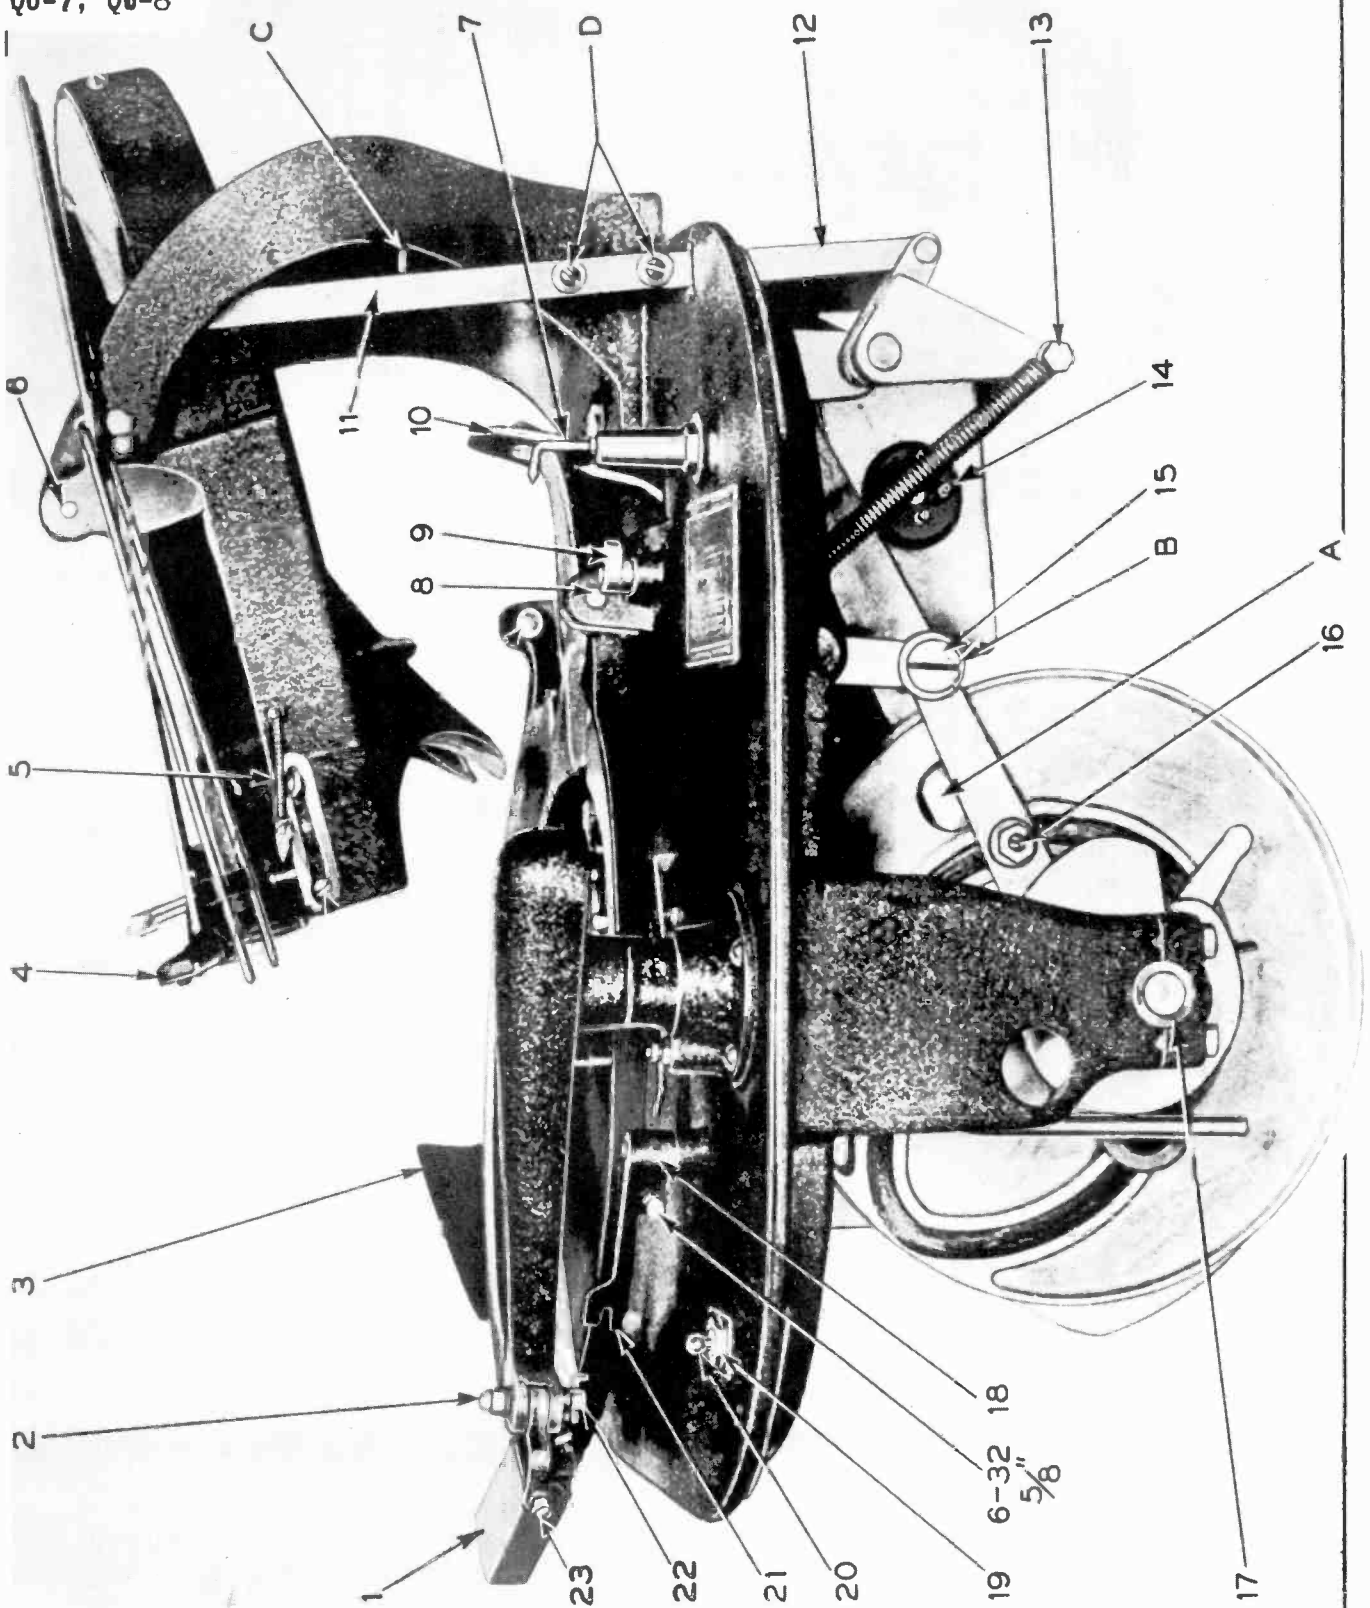
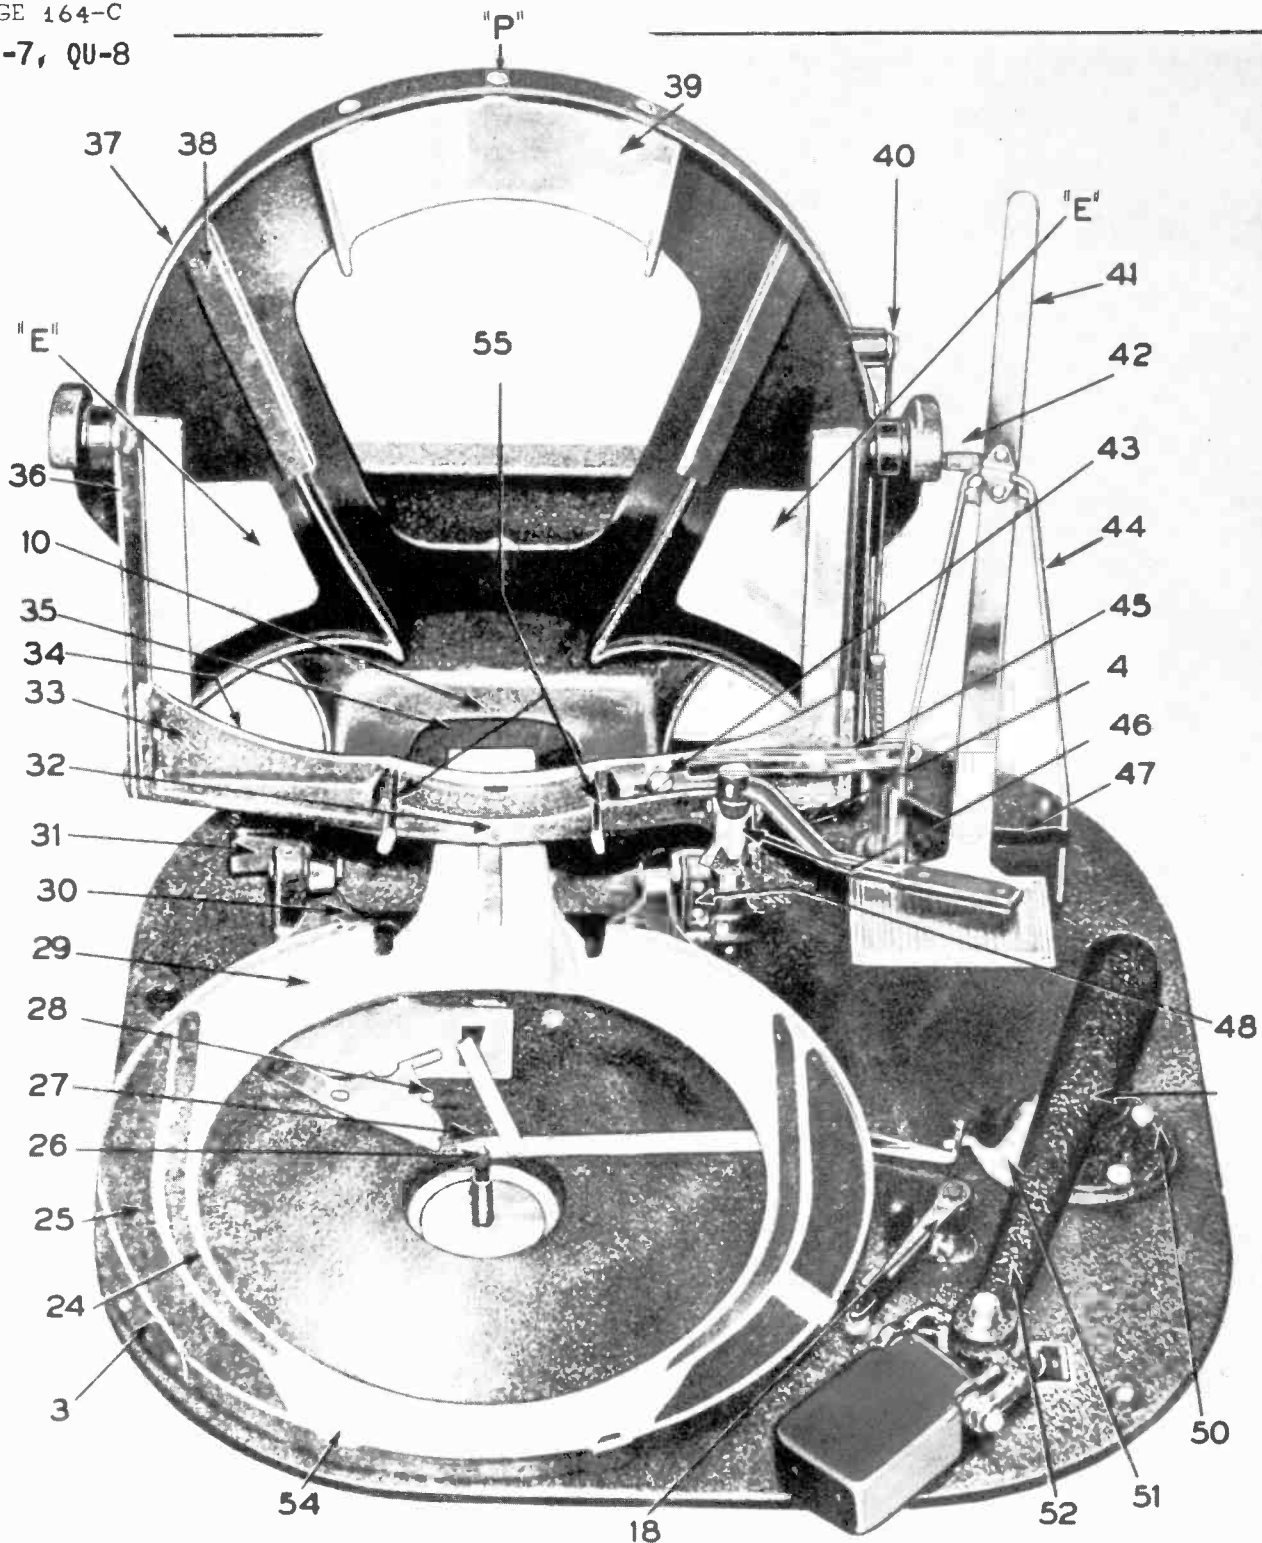
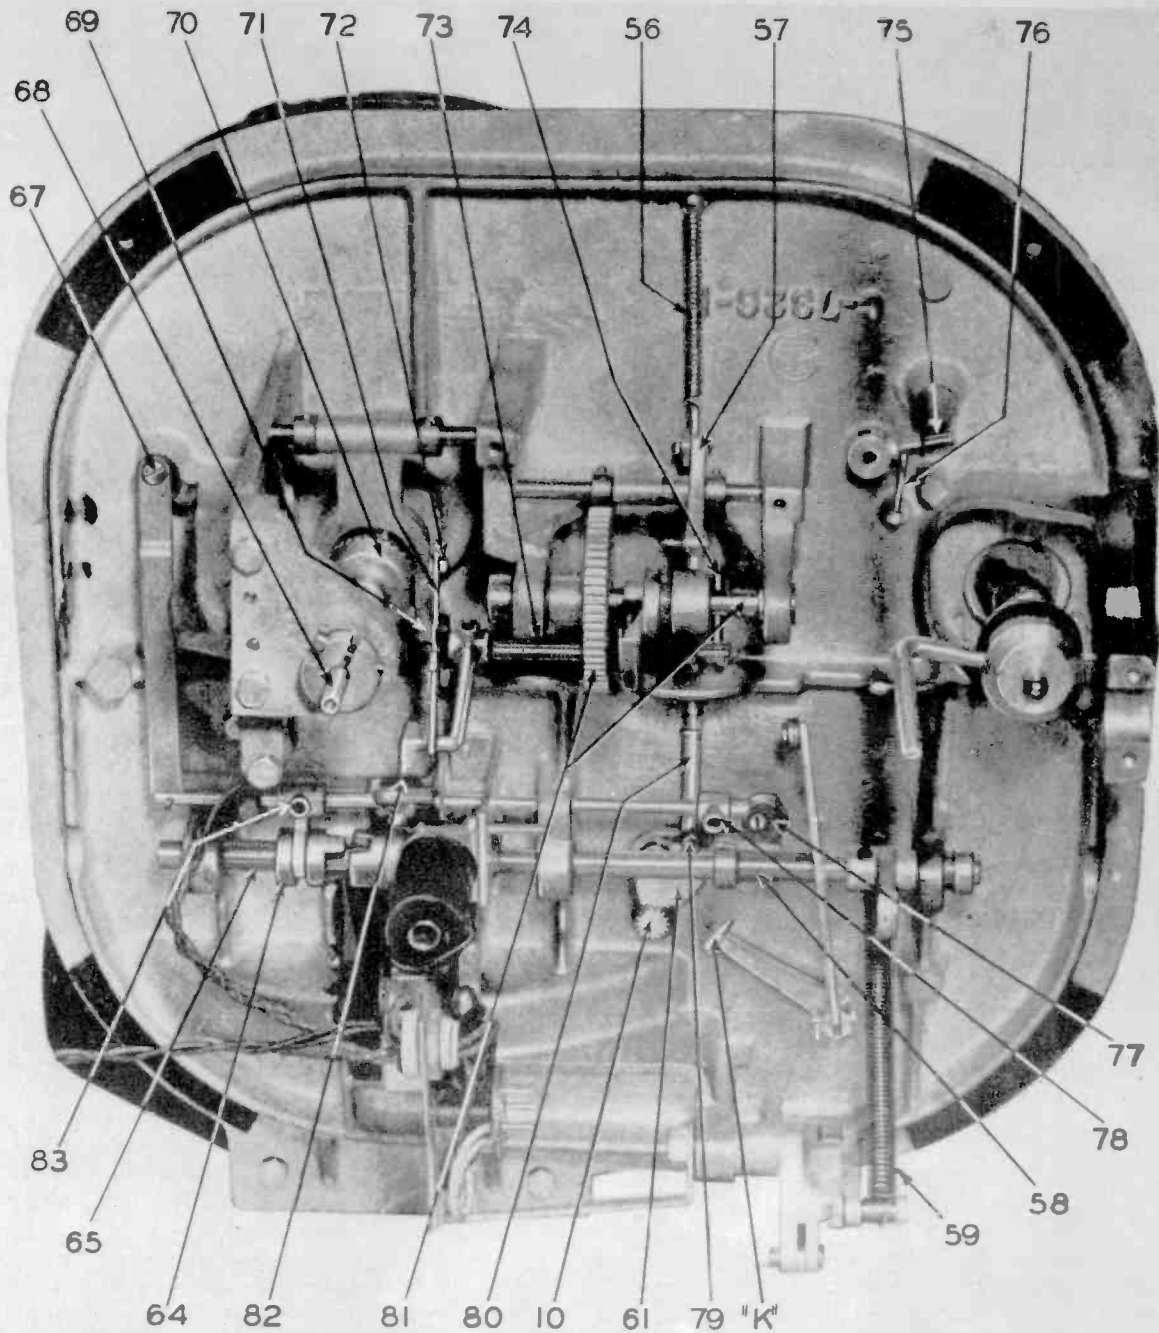
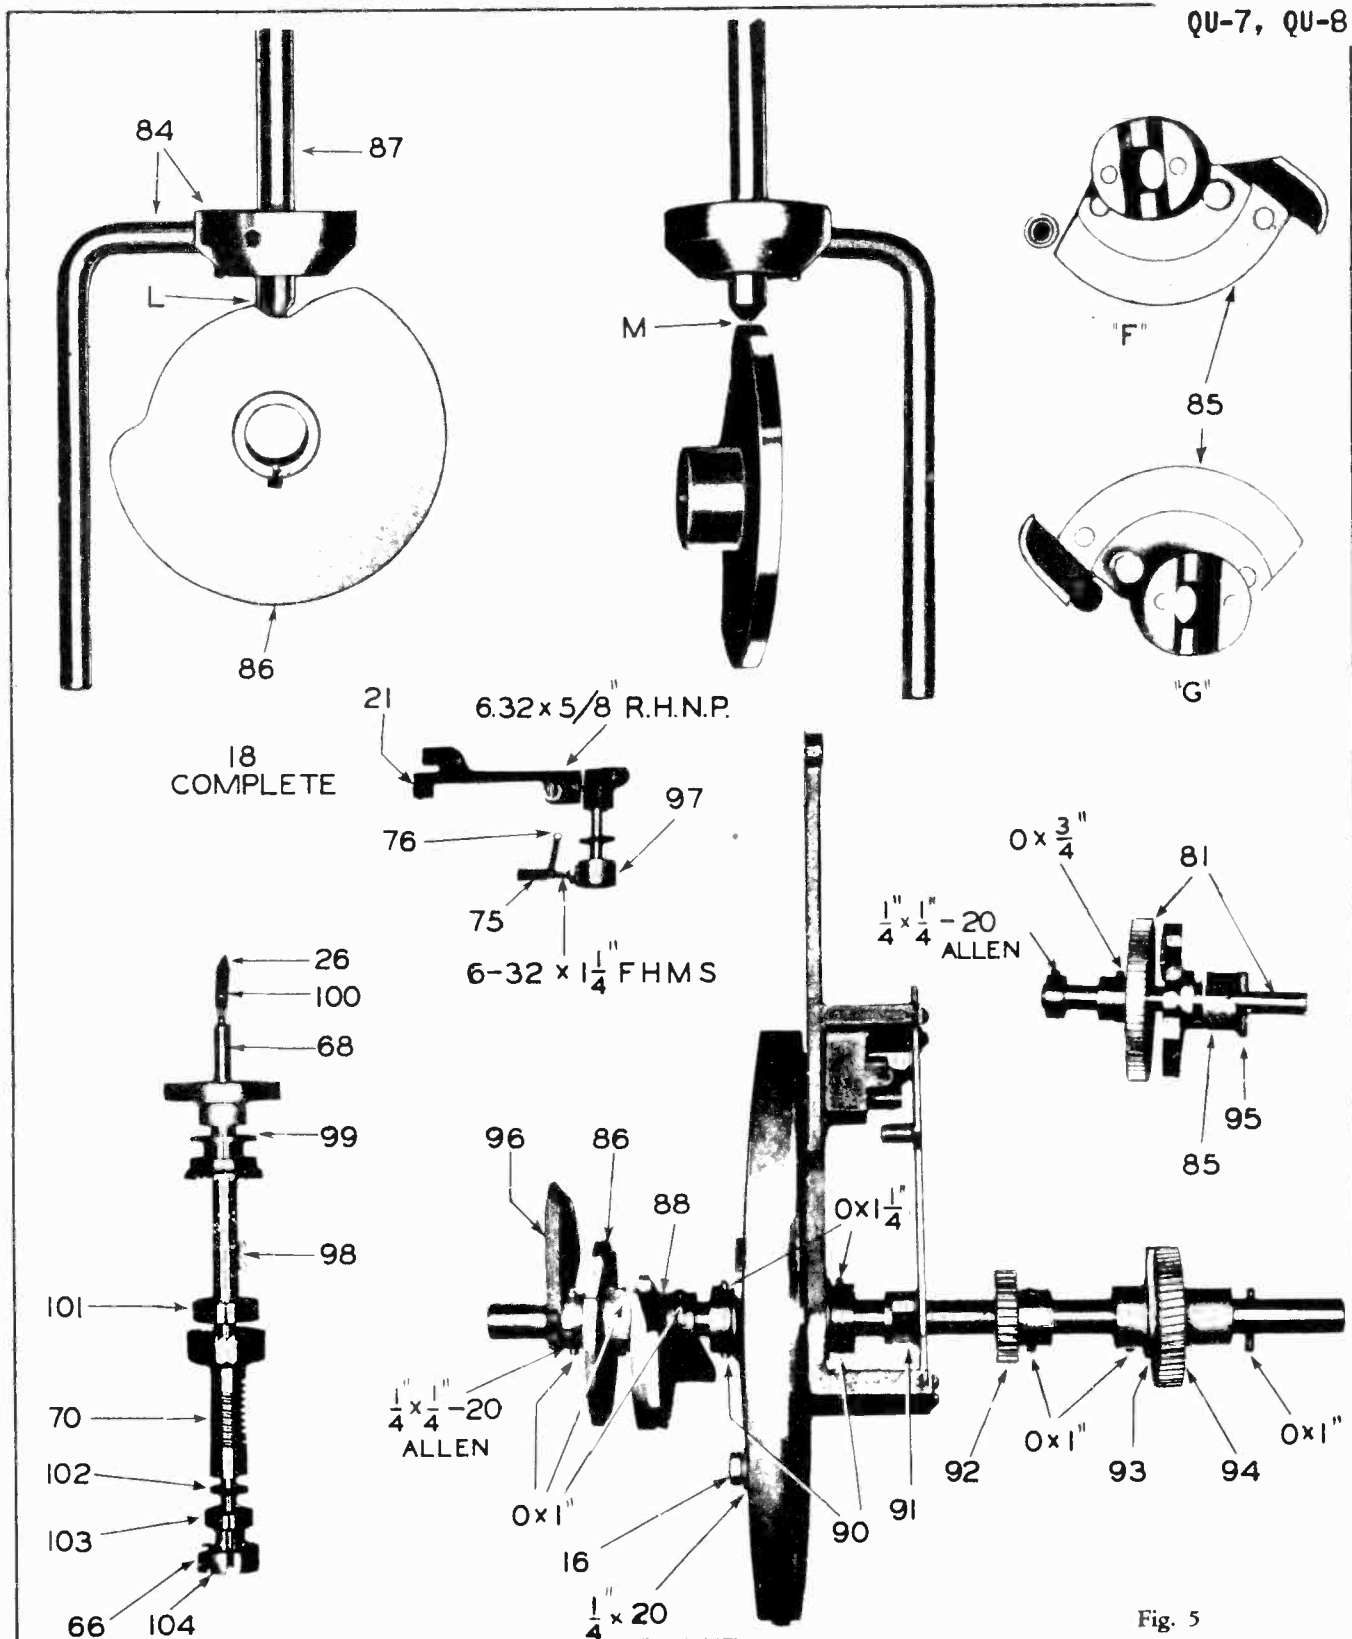

Fig. 1
Fig. 2
Fig. 4
Fig. 5
A very light coat of vaseline should be applied to the surfaces of the magazine, indicated at "E" in Fig. 2. It is best to apply this coating every six months. The vaseline should be applied with, and removed by, the fingers, on the magazine faces. **DO NOT USE EXCESSIVE AMOUNTS OF LUBRICANT ANYWHERE ON THE RECORD CHANGER.**
NEVER OIL THE "DUREX" BUSHINGS (one of which is shown as No. 17 in Fig. 1), AS THIS WILL CAUSE THEM TO DISINTEGRATE.
Note:—When mechanism jams upon first being played after being unpacked, check to see whether the record magazine is lined up as stated in Adjustment 7. Also check to see if the Record Reverse Arm Lock No. 46 Fig. 2 is on top of the Record Reverse Arm Lock Stop No. 48 Fig. 2.
1. MAGAZINE LINK ADJUSTING SCREWS ("D") (Fig. 1).
The record magazine should always come back snugly against the magazine stop screw, "C," Fig. 1. If it does not, it is necessary to loosen the two set screws ("D," Fig. 1) to a sliding tension and run the record changer through a cycle of change. When the magazine has reached the horizontal position, as shown in Fig. 1, press down on the lower end of the magazine; this will lengthen the link assembly. Then when the magazine returns to its normal position, the magazine link will adjust itself so that the magazine is snugly against the stop screw. Then tighten the magazine link screws "D."
The separator stop "J," Fig. 1, should be adjusted so that a small 10" record will positively clear the knife portion of the separator lever as shown in the following illustration. A
standard to use is to make certain that there is approximately $\frac{1}{32}$ " clearance between the edge of the small record and the point of the separator lever, as shown at "A" in illustration below. However, it may be necessary to vary one way or the other from this measurement, depending on whether or not the slotted end of the record separator lever goes over the hook (7) (Fig. 1) without binding.
After adjusting the record separator it will be necessary to check the record separator hook (7) (Fig. 1) to see that it enters the slot in the record separator without binding. This hook is threaded and by loosening the locknut the hook can be turned in either direction, to raise or lower it. After the correct adjustment is obtained, tighten the locknut.
4. RECORD MAGAZINE BUSHING (13) (Fig. 1).
If a ringing noise is heard while the instrument is changing records, i. e., such a noise that might be made by a spring, it will be found that the Durex bushing (13) (Fig. 1) is too tight, in which case it will be necessary to loosen the lock nut of the holding bolt, and back the bolt out, from a quarter to a half turn, then tighten the lock nut.
To adjust the tone arm height, first place a 12" record on the turntable and adjust the tone arm stop lever (18) (Fig. 1) so that the record hits the rubber roller (21) (Fig. 1) in the center. Start the record changer through a cycle and stop it when the tone arm lever hook (22) (Fig. 1) just touches the stop lever assembly. In this position adjust the tone arm height so that the top of the stop lever is the same height as the center of the hook. This adjustment is made by loosening the two Allen set screws at the rear of the tone arm. These Allen set screws are accessible by raising the tone arm by hand. After making the height adjustment it is necessary to make certain that there is a clearance of approximately $\frac{5}{8}$ " between the pickup head and the record tray. This distance may be checked between the bottom of the record tray and the bottom of the pickup when the record tray is approximately parallel with the pickup.
6. TO ADJUST THE STOP LEVER HOOK (22) (Fig. 1).
Always adjust the tone arm position on a 12" record before adjusting for a 10" record. Adjust the tone arm stop lever hook (22) (Fig. 1) by moving it in or out. This hook is locked in place by a set screw in the stud whose nut is shown in Fig. 1 as No. 2. This set screw is at the bottom of this stud. Adjust the hook so that it will pass through the notch in the pickup arm lever (18) (Fig. 1) without binding against the top or bottom of the notch, when in the playing position. With a 12" record on the turntable, the rubber roller (21) (Fig. 1) against the edge of the record and the stop lever hook (22) against the blade of the stop lever (18) the needle should stop on the record exactly $\frac{3}{32}$ " from the edge of the record.
With the record changer in exactly the same position as described above, and with a 10" record on the turntable and the hook (22) (Fig. 1) against the blade, the stop lever should allow the needle to stop on the record $\frac{3}{32}$ " from the edge of the 10" record. A 6-32 screw shown in Fig. 1 is provided for making this adjustment, simply by screwing it in or out. A check should be made for clearance between the roller and the tray, this roller should never bind on the record tray. This can be taken care of by slightly bending the tone arm stop lever (18) (Fig. 1) up or down. If it is necessary to bend the stop lever it will be necessary to re-adjust for 12" records.
center of the magazine pivot pins (6) (Fig. 1) is $8\frac{3}{8}$ " above the base plate. This height is very important and we recommend checking the height of the right hand pin, when looking at the magazine, before any adjustments are made.
The record magazine is positioned by moving it sideways on its bearing or pivot pins. The two set screws underneath the pivot pins lock the magazine in position. Loosen these set screws, then see that the left hand side of the record reverse assembly fork (part of 4, Fig. 2) is between $\frac{1}{32}$ " and $\frac{1}{16}$ " inside the left hand side of the Reverse crank, when looking at the magazine. That is, the left hand edge of the record reverse fork is about $\frac{1}{32}$ " or $\frac{1}{16}$ " to the right of the left hand edge of the crank. After moving the magazine, lightly set up the set screws. Then with the selector arm in the "Repeat" position swing the record reverse arm around in front of the magazine, to see whether the record guide strikes either of the record support pins (55) (Fig. 2). If the guide strikes either of the support pins it will be necessary to bend the pin away from the guide so they can not strike. If it is necessary to bend either pin, set the control lever in the "Repeat" position, then raise the record tray by hand, with a 10" record on it, observing the way the record strikes the support pins, the record should hit both pins about $\frac{1}{16}$ " from the end of the pin; if it does not it will again be necessary to adjust the pin until the record hits both pins an equal distance from the ends. If it is necessary to bend the pins, check the clearance between the record guide arms and the pins and between the arm carrying the record guide and the right hand pin. Also if the magazine has been shifted it is necessary to see that the two points, which extend downward from the magazine, have ample clearance in the channels, in the record tray, which are provided for their passage. If there is possibility of the points striking it probably means the magazine has been shifted too much.
If the magazine has been adjusted, it is also necessary to see that the record separator hook (7) (Fig. 1) does not bind in the slot in the end of the record separator arm (45) (Fig. 2). If it does the section covering these parts give the adjustment.
The magazine stop screw "C," Fig. 1, should be adjusted so that the crank pin (part of 9, Fig. 1) is approximately $\frac{1}{16}$ " from the edge of the record reverse arm fork (part of 4, Fig. 2) which is furthest from the magazine, when the record reverse guide is in front of the magazine, that is, in the reversing position.
9. TO LOCATE AND ADJUST THE RECORD TRAY (29) (Fig. 2).
With the two gears properly meshed, loosen the Allen set screws which hold pins No. 8, Fig. 1, in place. This will allow you to move the record tray sideways, adjust tray sideways until the turntable spindle is exactly in the center of the 10" record level of the record tray. (The 10" record level is that part of the tray where the felts No. 24 are indicated in Fig. 2.)
With the control lever in the "one side" position, run the record changer through its cycle until the large hole in the main cam is exactly half way past the upper edge of the record tray cam follower, as shown at "A," figure 1. At this
position, the points of the ten-inch felts (24) (Fig. 2) should be level with the top of the turntable felt. If this tray is too low or too high, it may be adjusted to the proper level by loosening the eccentric screw (15) (Fig. 1) "B" and turning this screw until the proper level is obtained. Be sure to tighten the lock nut after adjustment.
10. TO ADJUST THE VERTICAL BUMPER GUIDE (10) (Fig. 2).
This guide is located back of the magazine cross bar (33) (Fig. 2). After the records are separated from the magazine they are guided in dropping off the separator so they hit the center of the record bumpers (31) (Fig. 2). This vertical bumper guide also guides the records when the elevating hook, on the rear of the record tray lifts the record. The vertical bumper should be set back just far enough to allow a 12" record to drop onto the record bumpers freely. The lower part of the vertical bumper, which extends into the record well, should extend toward the center of the well rubber bumpers far enough to make sure that the upper edges of the records fall behind the points of the upper record support (39) (Fig. 2). This adjustment is not critical. In most cases it will be found that the upper end of the vertical bumper will just clear the elevating hook on the rear of the tray. In cases where it is found that 10" records are chipping about the edges, due to bouncing against the points of the upper record support (39) (Fig. 2) it will be necessary to bend the vertical bumper (10) (Fig. 2) back at the top to a point where it just barely clears the elevating hook at the rear of the tray. It should never be bent back far enough to raise the front of the tray.
11. RECORD REVERSE GUIDE (41) (Fig. 2).
With a 12" record in the magazine the record reverse guide assembly (41) (Fig. 2) should be parallel with the record when in the reversing position, in front of the magazine.
If the record reversing assembly is parallel with a 12" record as above, it should come around and lay against the reverse guide pin tubing (42) (Fig. 2), if the eccentric cam (77) (Fig. 4) is properly adjusted. This cam can be adjusted, by loosening the screw through the cam and turning it so that the record reversing assembly returns to the reverse guide pin tubing. Care should be taken when making this adjustment so that the crank pin (part of 9, Fig. 1) does not hold the reverse guide away from the pin tubing. This cam should be turned so that the reverse guide assembly just touches the pin tubing; if the cam is turned too far it will allow the reverse guide assembly to hit the pin tubing, but in the reversing position the assembly will not be able to assume a position parallel with a 12" record.
Loosen lock nut "H," Fig. 6, while the record changer is in the reversing position, that is, when the reversing assembly (41) (Fig. 2) is in front of the magazine. Remove the screw (79) (Fig. 4) holding the reverse segment link (80) (Fig. 4) to the reverse segment (61) (Fig. 4) and lengthen or shorten the link, by the link thread until the reversing crank (9) (Fig. 1) stands with the crank pin just barely touching, but not binding, against the front side of the fork (4) (Fig. 2). After the adjustment has been made, lock the link in place with the lock nut "H," Fig. 6.
Both end bearings of the main cam shaft are movable, and are used to locate the cam shaft in its proper lateral position, as well as adjust the amount of end play. The main cam shaft is located laterally so that the ball in the end of the tone arm lift rod (87) (Fig. 5) travels in the exact center of the tone arm lift cam (86) (Fig. 5). As shown at "M" in Fig. 5.
The clutch throwout lever cam is shown as No. 125 in Fig. 7 and is adjusted by loosening the shoulder screw (69) (Fig. 4) to a sliding tension after the record changer has been stopped in the playing position. The clutch throwout lever cam should just clear the point of the turntable throwout cam (93) (Fig. 5) with the clutch disengaged. Unless clearance between the turntable throwout cam and the clutch lever throwout cam is maintained the record changer will jam. If too much clearance is allowed the turntable throwout cam will not disengage the clutch and the record changer will continue to change records without playing them.